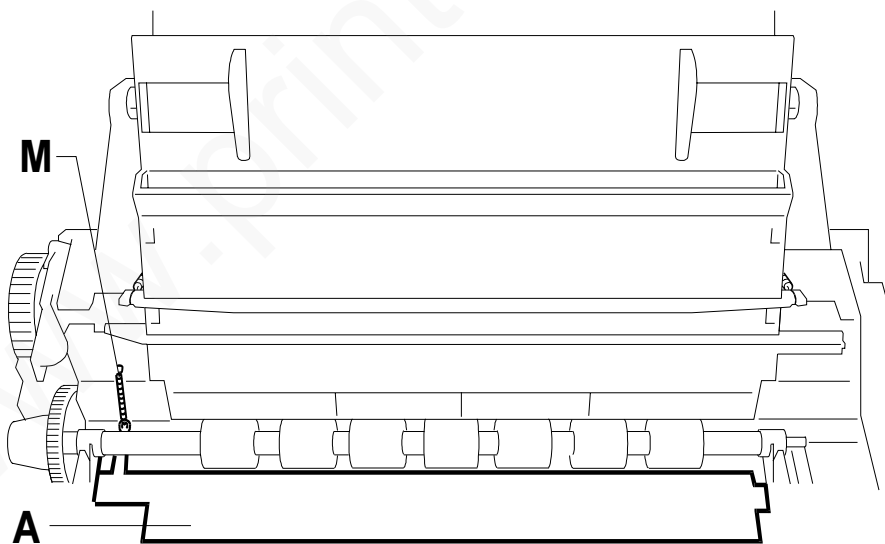

Fig. 7-47
- 4) Release spring **M** and move the carriage against the left side to be able to remove the lid of the optical unit **A** forward (Fig. 7-47):